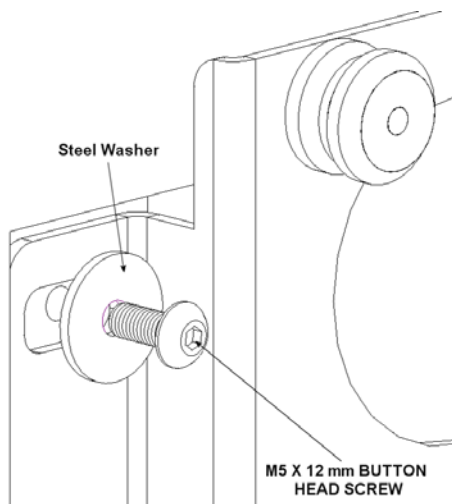
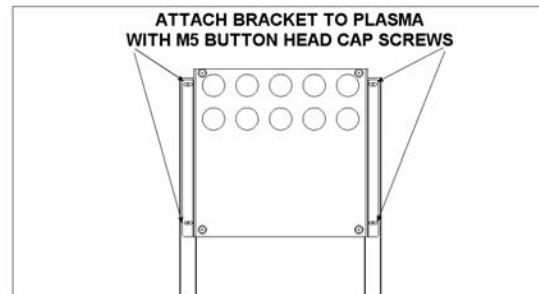

Figure 4
Figure 5
2. Place plasma bracket on display, with the bent flanges of the bracket in the slots on the display, and attach using the M5 button head cap screws and washers, ensuring not to over-tighten (See Figure 4 and Figure 5).